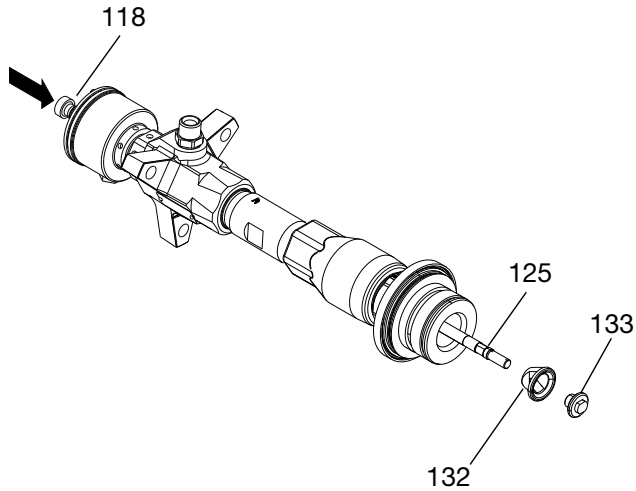

FIG. 10
7. Push on the upper displacement rod (118) to expose flats of the lower shaft assembly (125). Hold flats of the lower shaft assembly (125) with an adjustable wrench, and use a second wrench to unscrew shovel nut (133) from lower shaft assembly. Slide shovel piston (132) off rod. Inspect surfaces of shovel nut and lower shaft assembly for scoring, wear, or other damage. See FIG. 10.